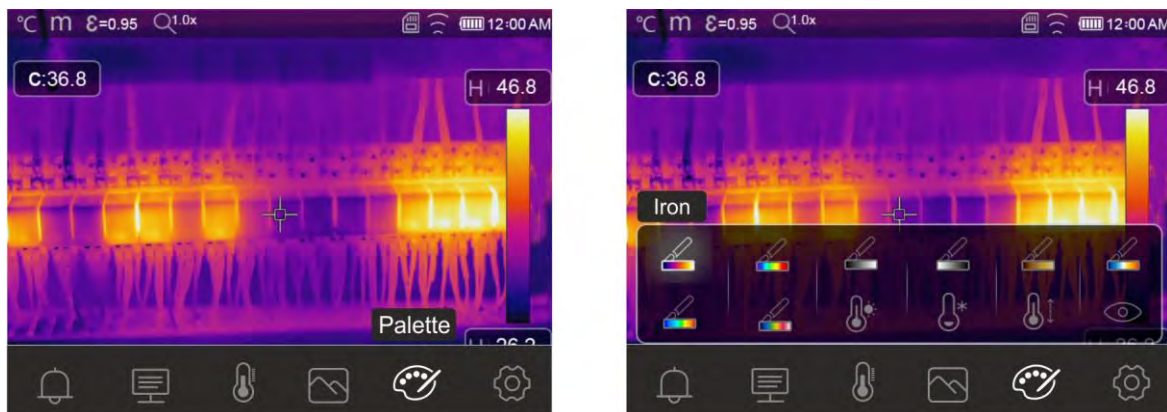

Fig. 36: Selection of color palettes and isotherm lines' functions
2. Touch the icon “☺” to enter the “Palette” menu. The screen in Fig. 36 – right side appears on the display.